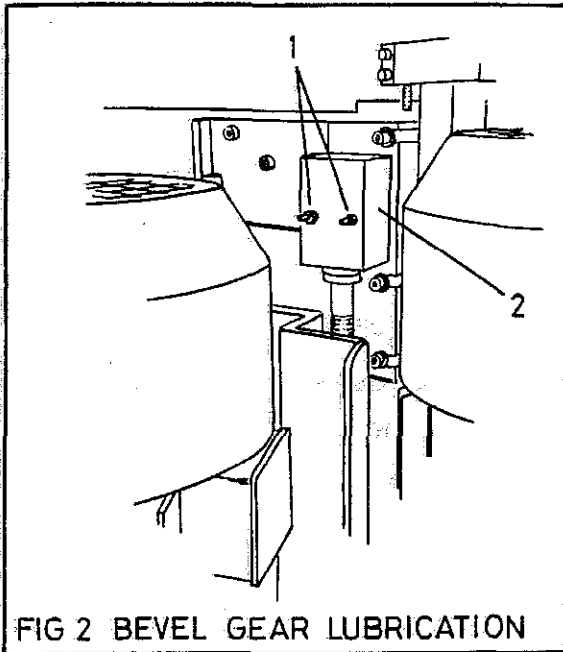

FIG 2 BEVEL GEAR LUBRICATION
- c. Fit safety collar (see fig 2) and tighten securing screw.
**Safety Collars (fig 2)**
#### *Three Monthly (Fig 2)*